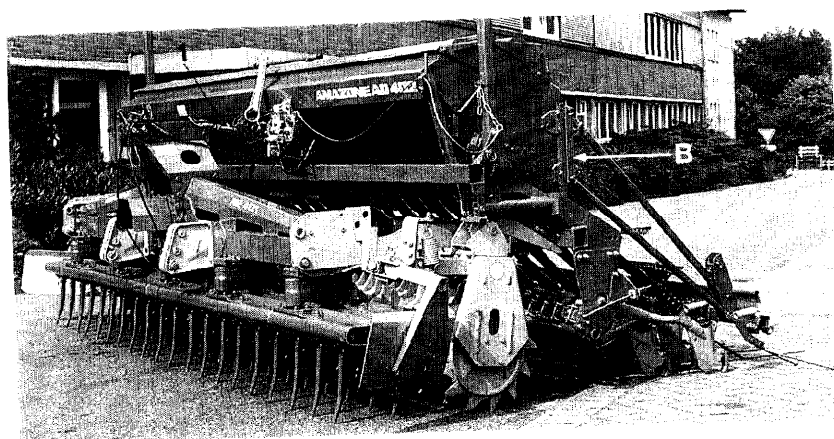

Fig. 15
- Fix turnbuckle (Fig. 15/1) to the AD and to the soil tillage implement by pins and secure each one by spring pin.
- Adjust top link length (Fig. 15/1) in such a way that the rear wall of the seed drill in the area of B (Fig. 15) stands about vertical.